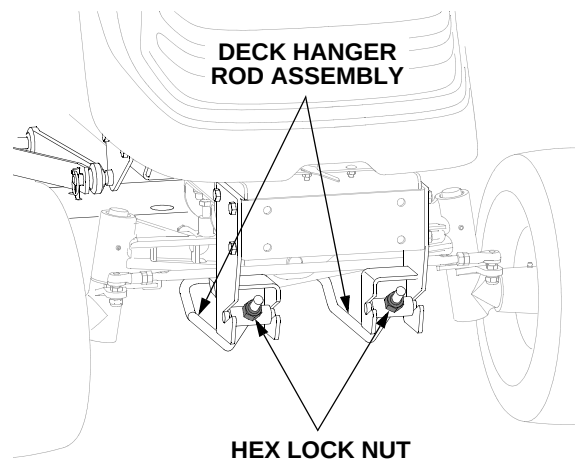

Figure 53
- If the front of the deck is too low, the deck hanger rod assembly must be shortened. From the front of the tractor, **evenly** turn the hex lock nuts clockwise to shorten the hanger rod assembly and raise the front of the deck. See Figure 53.
- If the front of the deck is too high, the deck hanger rod assembly must be lengthened. From the front of the tractor, **evenly** turn the hex lock nuts counterclockwise to lengthen the hanger rod assembly and lower the front of the deck. See Figure 53.